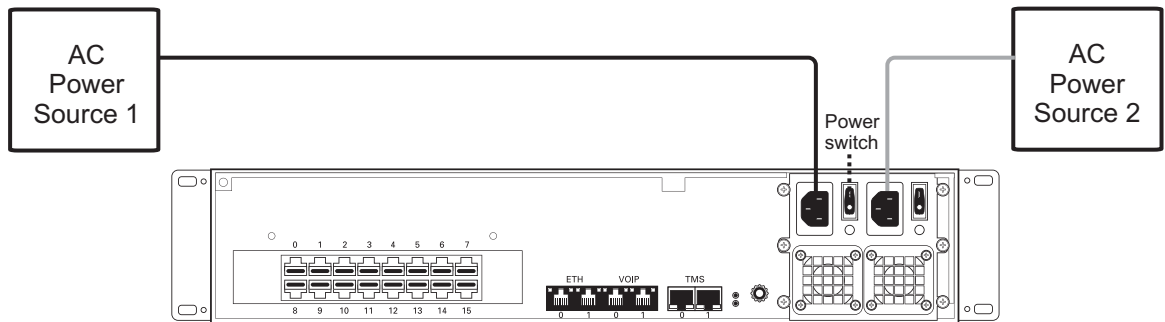

Figure 2.9 3200 Series Gateway AC Power Connection
1. Connect an AC power cable between the AC connector of the TMG3200 and an AC supply. See figure 2.9 on page 26.
**Note** If the 3200 series gateway features a second power supply and it is not connected to an AC power source, press the green button located at the rear of the unit to disable the audible alarm. See figure 2.9 on page 26.